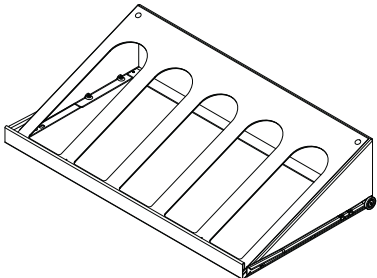

Figure 19
- (1) 5 bottle rollout display rack with vibration dampening mat (See Figure 19).